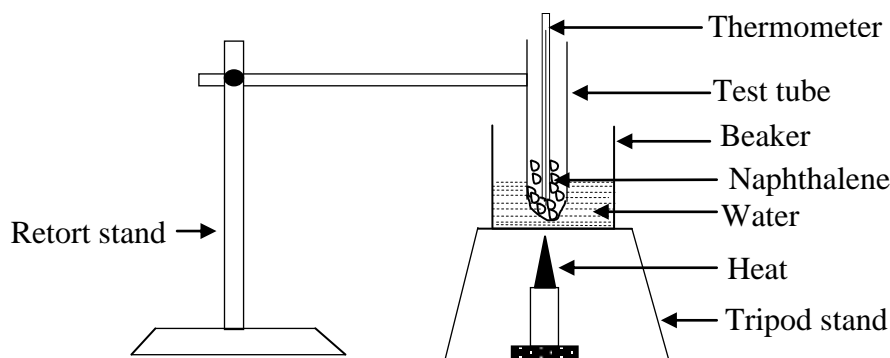

Figure 26
- (c) Put some water of volume 250 cm^3 in a 500mls beaker provided. Lower the test-tube in the beaker as shown in Figure 26: